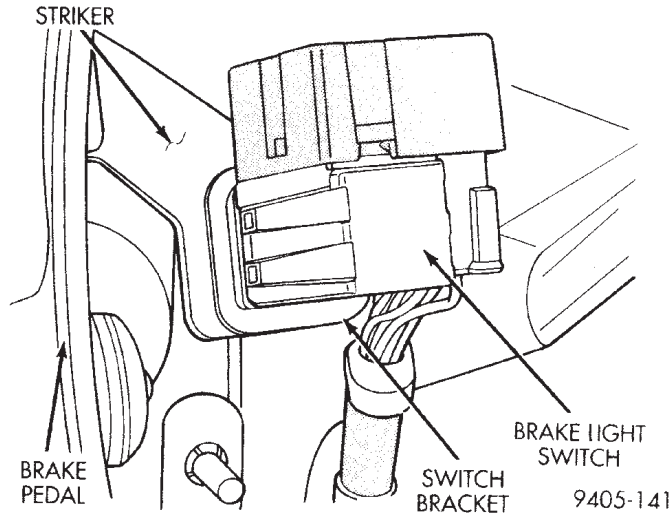

Fig. 173 Stop Lamp Switch
- (1) Depress and hold the brake pedal while rotating the stop lamp switch (Fig. 173) in a counter-clockwise direction approximately 30 degrees.
- (2) Pull the switch rearward and remove it from its mounting bracket.
- (3) Disconnect the wiring harness connector from the stop lamp switch.